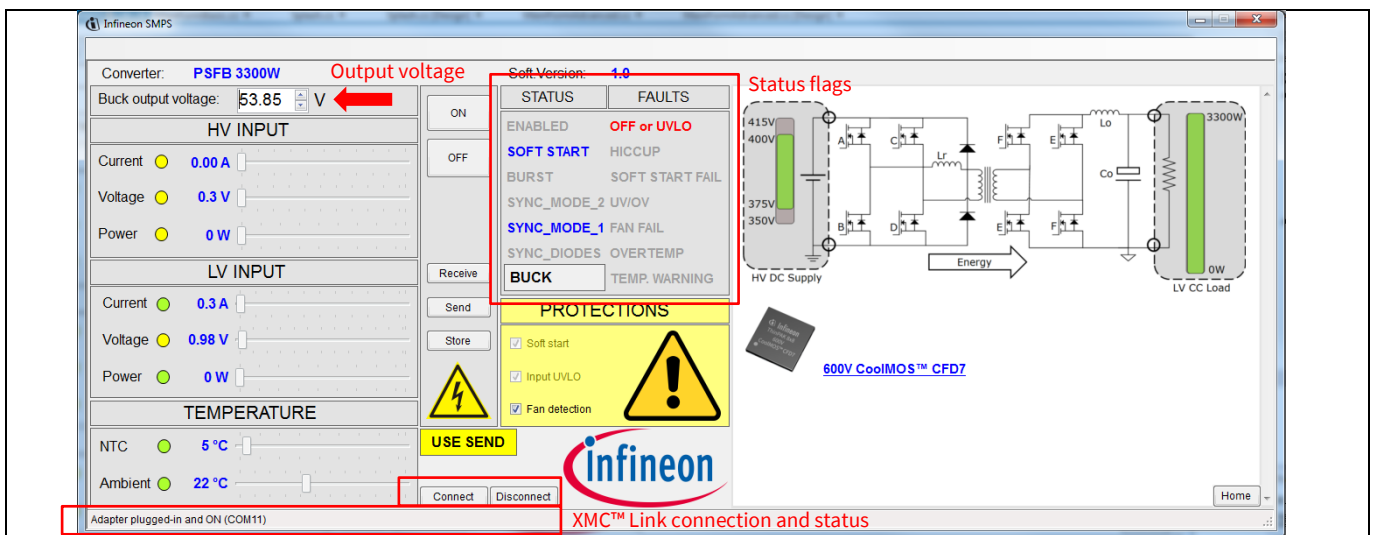

Figure 8 Use the “Send” button after modifying a parameter to actually update it in the controller
The nominal output voltage of the converter can be adjusted within the range of 53 V to 59.8 V. Select the new voltage setting by typing in the “Buck output voltage” text field (Figure 8). After typing follow the GUI indications:
1. Click the “Send” button (Figure 8). The new output voltage setting is updated into the controller card but it will be lost when the converter turns off.